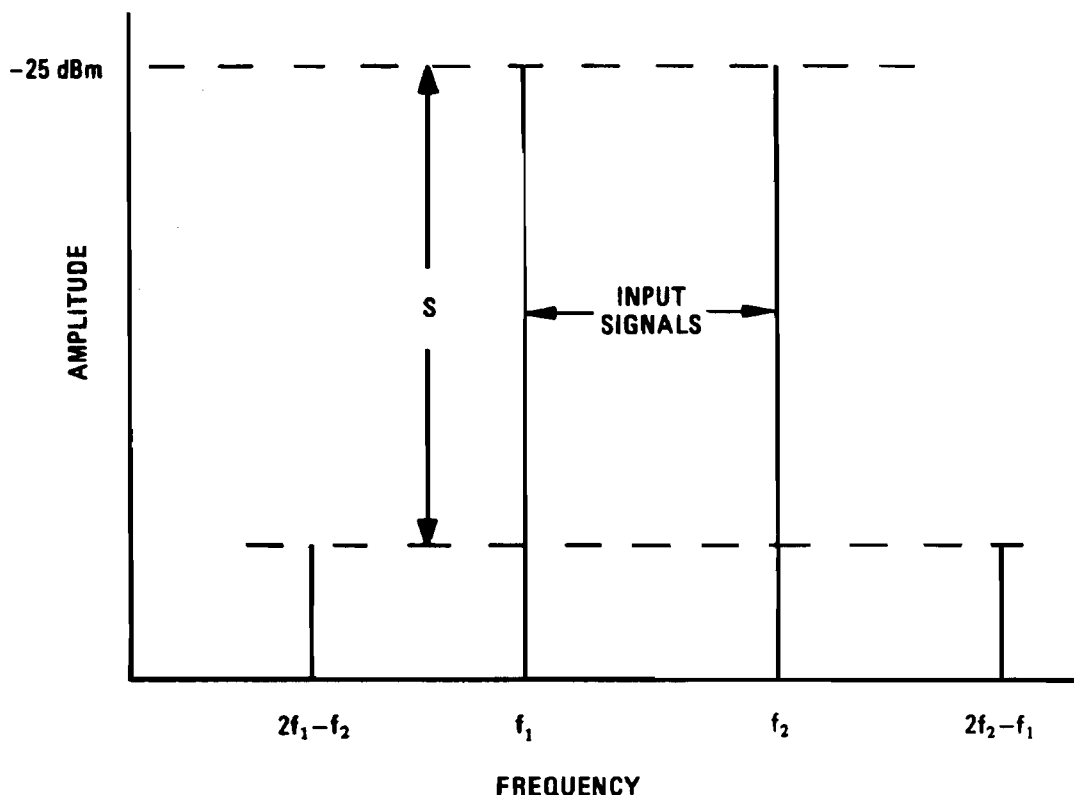

Figure 2-30. Third Order Intermodulation Products
40. The result should be $>+7$ dBm. Refer to Figure 2-30.